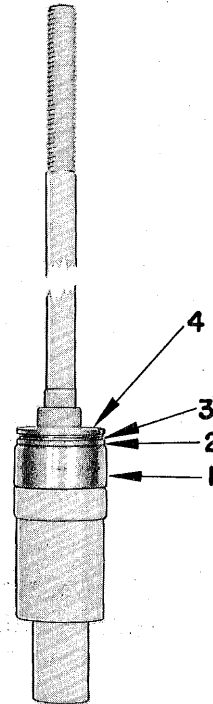

Figure 3. Showing thrust washers, thrust bearing and pinion bearing in position on spindle
8. Place bearing 1 (Figure 3) in position on the spindle.
9. Note that the thrust washers 2 and 3 (Figure 3) are of different outside diameters — one (No. 304795) is the larger while No. 304796 is of lesser outside diameter.
10. Install No. 304796 of the lesser diameter — on top of the pinion bearing — 2 in Figure 3.
12. Place thrust washer No. 304795 of the larger outside diameter (4 in Figure 3) above the thrust bearing.